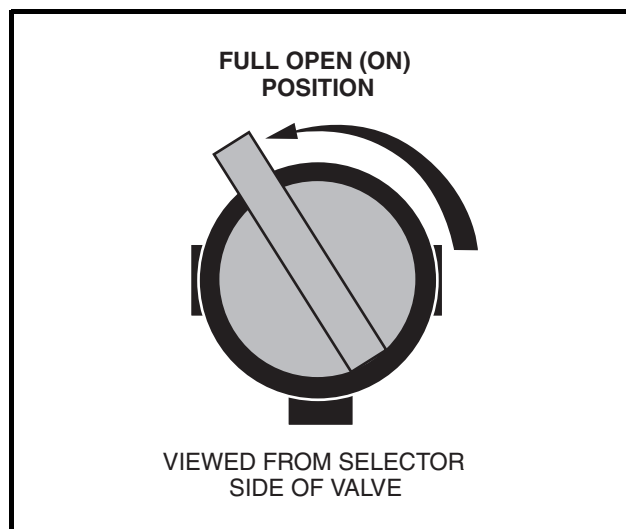
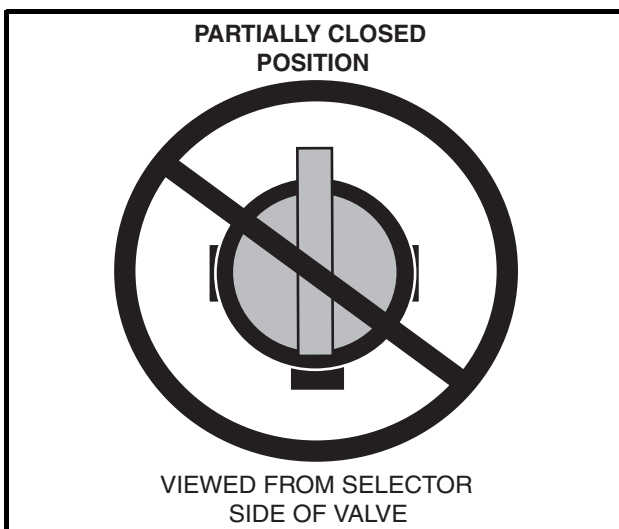

Figure 14-17 Open Fuel Shut-off Valve
Figure 14-18 Incorrect Fuel Shut-off Valve
6. Turn the fuel shut-off valve on top of the fuel tank to the open position (**Figure 14-17, Page 14-26**).
11. Check to be sure the fuel shut-off valve on top of the fuel tank is in the open (ON) position (**Figure 14-17, Page 14-26**).
The valve's open position differs from standard valve configurations. For the valve to be fully open, it must be turned approximately 120° from the closed (OFF) position (until it cannot be turned any further) (**Figure 14-17, Page 14-26**). If the valve becomes partially closed (**Figure 14-18, Page 14-26**), the engine will not run properly due to fuel starvation.